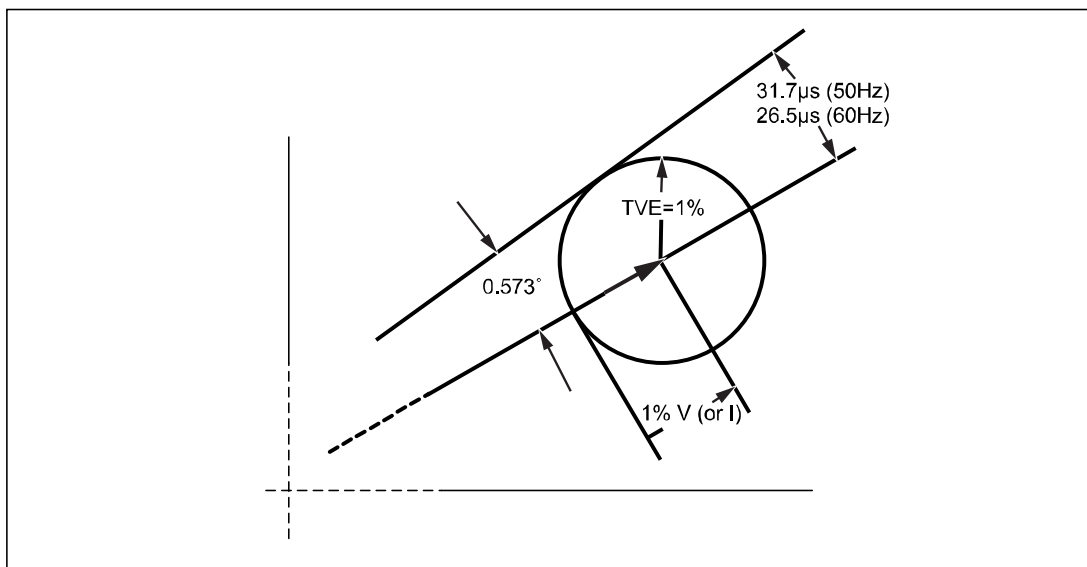

Figure 3-3. Accuracy Requirements (Illustration)
The Standard defines three types of test: Static performance, Dynamic performance, and reporting Latency. The tests are all represented mathematically in the Standard. With one dynamic test type exception and Latency tests, the PMU must meet test criteria for Total Vector Error (TVE), Frequency Error (FE) and Rate of Change of Frequency Error (RFE). The Figure 3-3 shows the errors of synchrophasor magnitude, phase angle, or time that would individually contribute to 1 % TVE.
The three factors that affect TVE are: timing error, magnitude error, and phase angle error. Table 3-1 and Figure 3-3 shows the accuracy required for each individual contribution assuming the other two are zero.